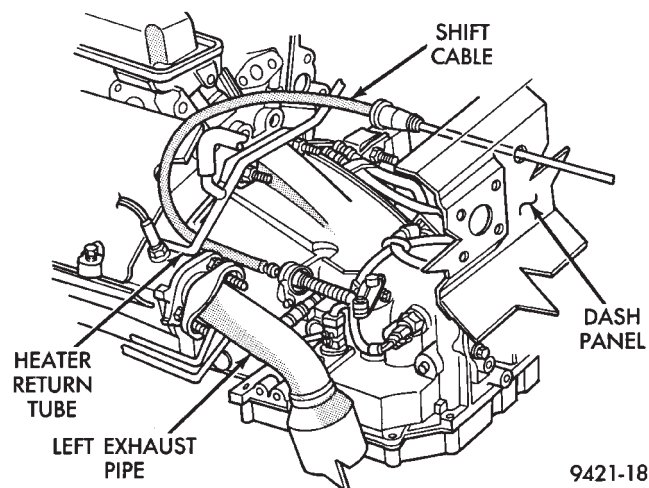

Fig. 29 Shift Cable Routing
(1) Reroute new cable from underside of vehicle. The cable must be routed between the engine block and the heater return tube (Fig. 29).